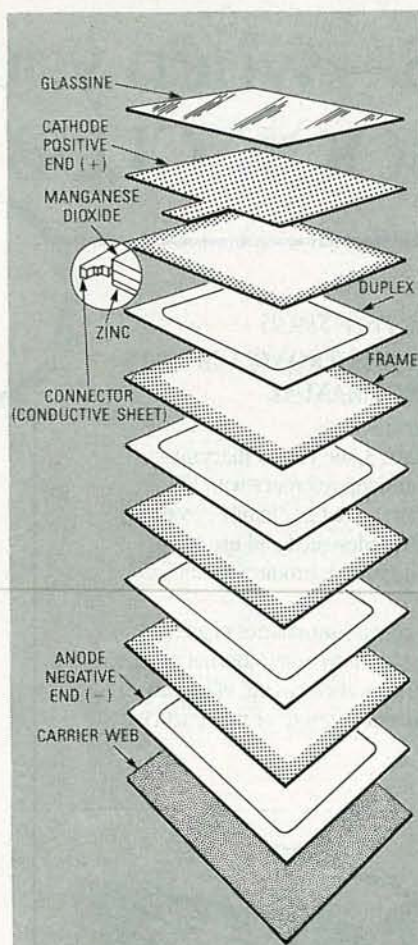

FIG. 4—THE LARGE ELECTRODE area of the Polapulse battery gives it the power to deliver enormous quantities of current.
A special form of the carbon-zinc design is the Polapulse battery (Fig. 4) used to power Polaroid instant cameras. Its thin, flat construction makes possible electrodes with large surface areas. That, in turn, gives it a large capacity—as much as 19 amperes of instantaneous current! A Polapulse experimenter's kit is available from Powercard Corporation, 391 Totten Pond Road, Waltham, MA 02154 (617) 890 6789. The P100 Designer's Kit contains five P100 batteries and a special holder for them; it costs \$17.50, and Massachusetts residents must add proper sales tax.